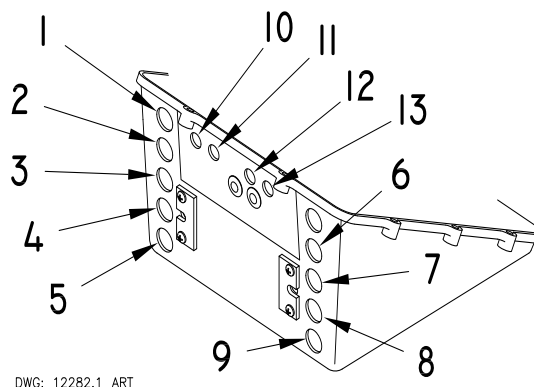

Figure 4-5: Standard Enclosure Cable Holes
1. When hard-wiring a Processor or installing additional Station pigtails, the cables must enter the enclosure through Liquid Tight Connectors in the appropriate holes as shown in Figure 4-5: Standard Enclosure Cable Holes
Locations 1 - 9 circuit board termination points are the same for all Processors and are shown on Figure 4-5: Standard Enclosure Cable Holes.